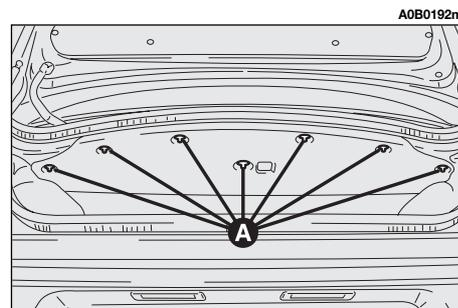

fig. 49
- Turn the fastening buttons (**A-fig. 49**) until they release and lower the trim.
- Re-position the trim correctly and fasten with its buttons (**A**-fig. 49).